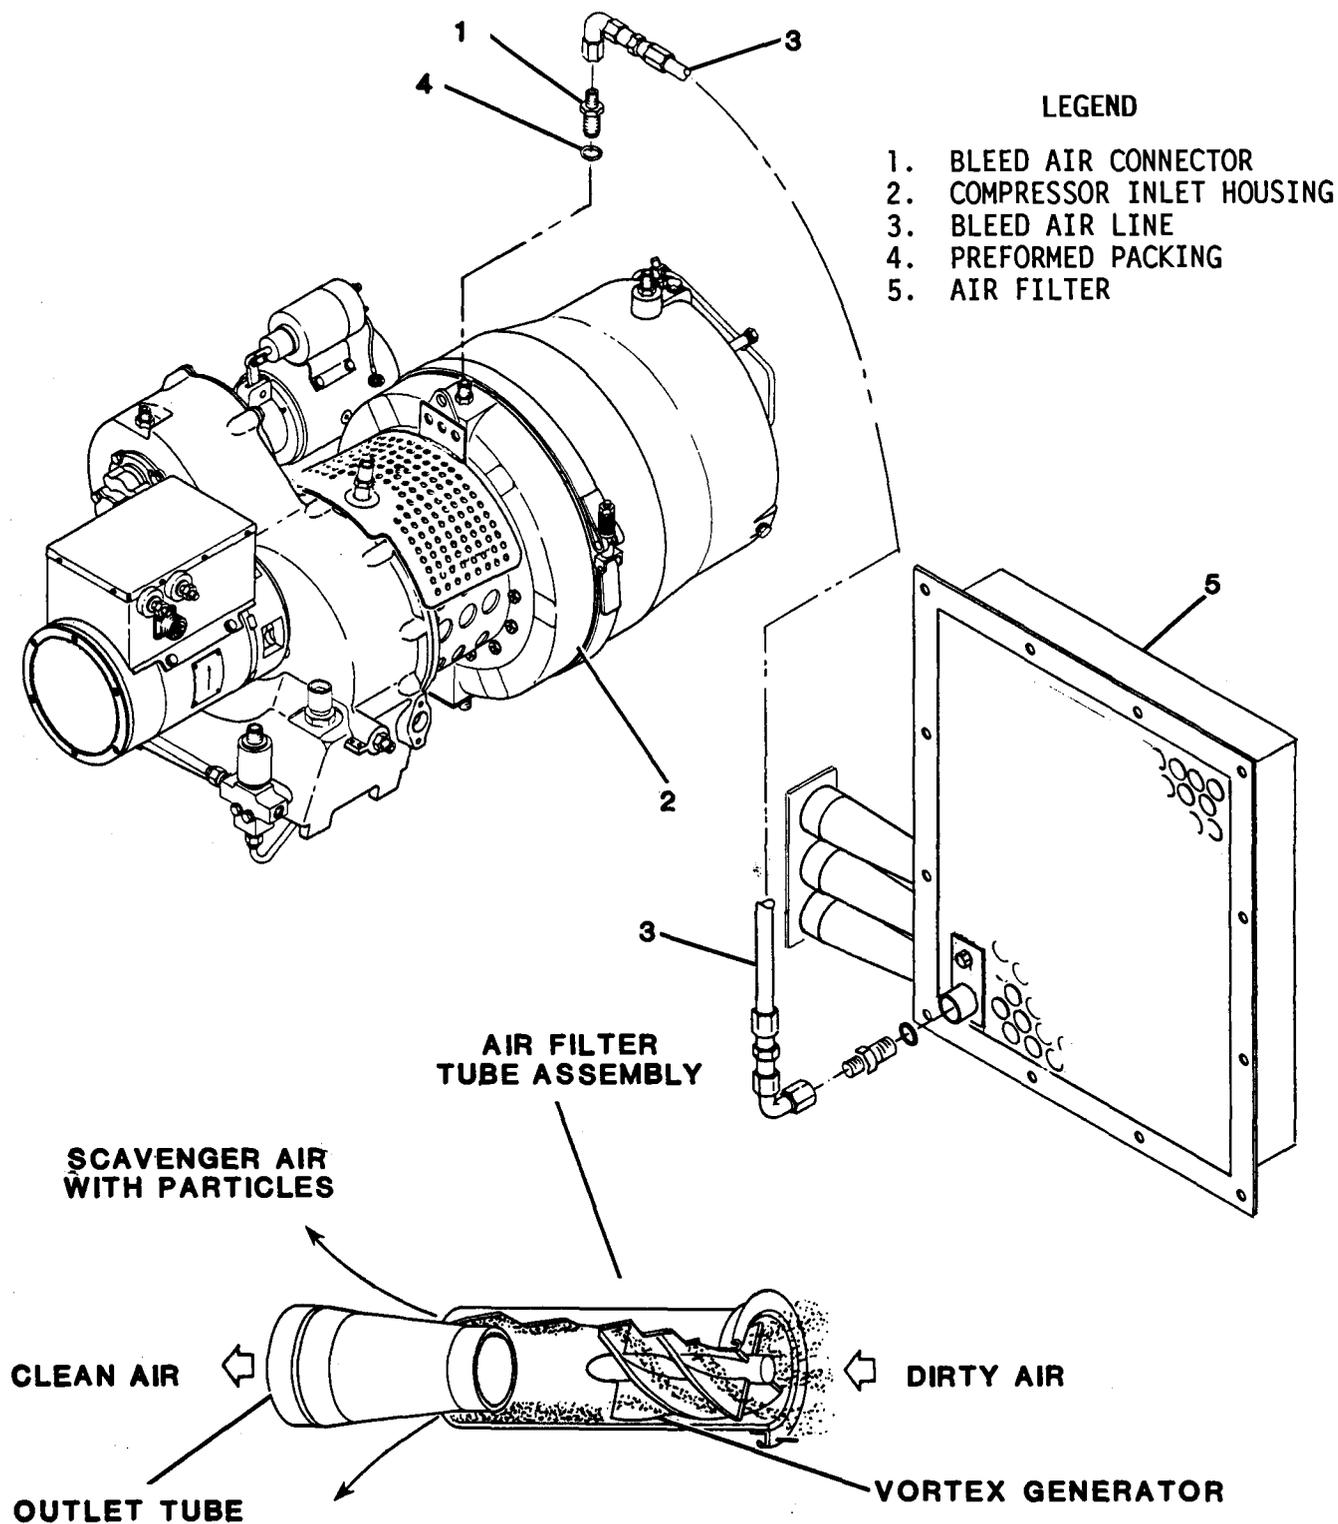

Figure 4-11. Bleed Air Connector and Bleed Air Line Replacement
4-18. **BLEED AIR CONNECTOR.** The bleed air connector (1, figure 4-11) is installed in the top of the inlet housing (2) and connected to the air filter (5) by the bleed air line (3). Bleed air at approximately 25 psi (172.38 kPa) goes from the inlet housing to the air filter where it is used to remove foreign matter. Foreign matter is removed from the air in the air filter tube assemblies.
(1) Loosen turnlock fasteners and remove engine housing access cover.
(2) Ensure that bleed air connector (1) is secure in compressor inlet housing (2). Torque to 135-150 inch pounds (15.3-17.0 Nm).
(3) Ensure that bleed air line (3) is securely attached.
(4) Install engine housing access cover and secure with turnlock fasteners.
(1) Place new preformed packing (4) on bleed air connector (1).
(2) Install bleed air connector in compressor inlet housing (2) and torque 135-150 inch pounds (15.3-17.0 Nm).
(3) Connect bleed air line (3) to bleed air connector (1).
(5) Connect battery cable plug connector.
4-19. **BLEED AIR LINE.** The bleed air line (3, figure 4-11) is connected between the bleed air connector (1) and the air filter (5). It provides a passage for bleed air at approximately 25 psi (172.38 kPa) from the compressor inlet housing (2) to the air filter.
(3) Check hose for abrasions, kinks, or twists. Replace if damaged.